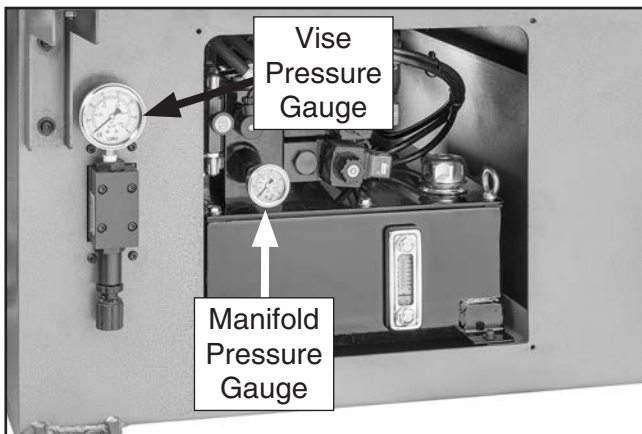

Figure 83. Location of pressure gauges.
4. Check pressure gauges shown in **Figure 83**. Gauges should read less than 498 PSI.